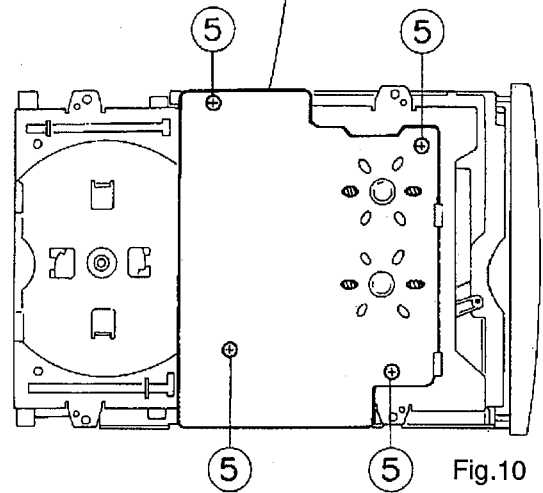

Fig.10
5. After turning over the CD traverse mechanism, remove the four screws 5 retaining the CD traverse mechanism control & servo P.C. board (See Fig.10).